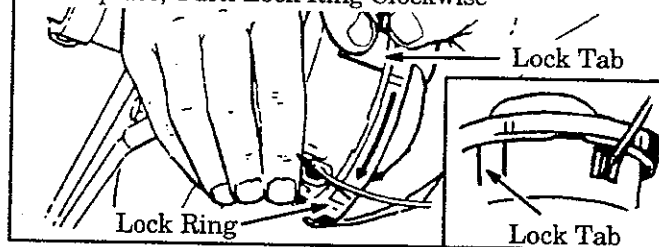

Figure 19
- a. Hold the trimmer head as shown in Figure 19. Press the lock tab and turn the lock ring as shown in Figure 19.